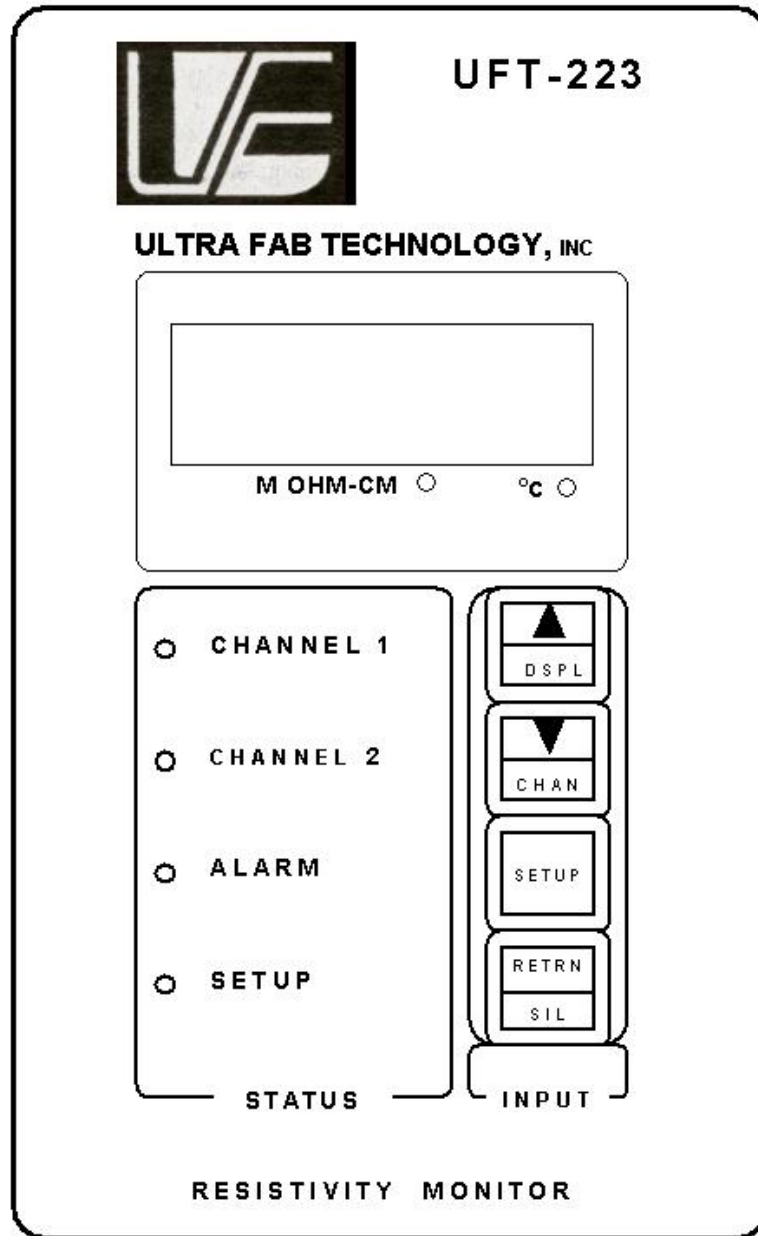

Figure 1
UFT-223 RESISTIVITY MONITOR (Figure 1)
9.5.3 Monitor the resistivity by selecting the proper resistivity channel on the RESISTIVITY MONITOR control pad (Figure 1). Select proper channel by pressing CHAN button (channel 1 for the QDR #1 on the left station, or channel #2 for the QDR #2 on the right station). Make sure M OHM-CM light is on when selecting this measurement mode. Water temperature or resistivity can be monitored on the same LED display by selecting/deselecting one or the other display mode via DSPLY button.